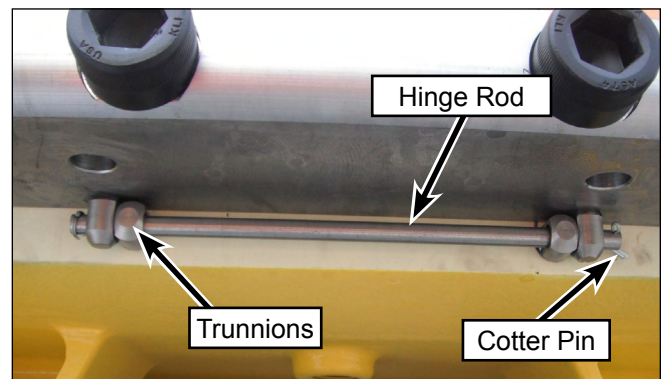

Figure 17: Hinge Rod, Trunnions, and Cotter Pin.
6. Remove the cotter pin from the hinge rod and remove the rod (Figure 17).